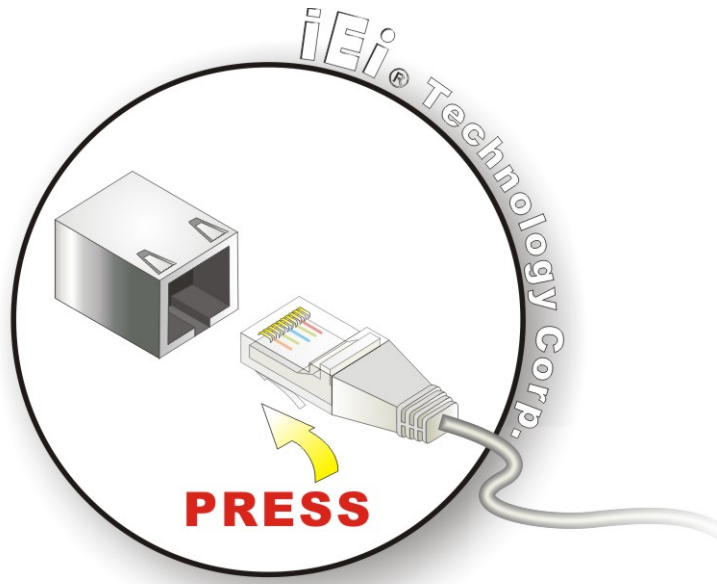

Figure 4-17: LAN Connection
Step 2: Align the connectors. Align the RJ-45 connector on the LAN cable with one of the RJ-45 connectors on the IMBA-Q454-R10. See **Figure 4-17**.